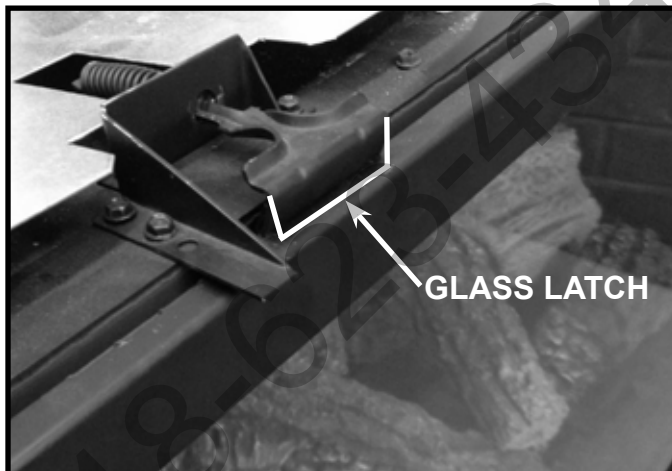
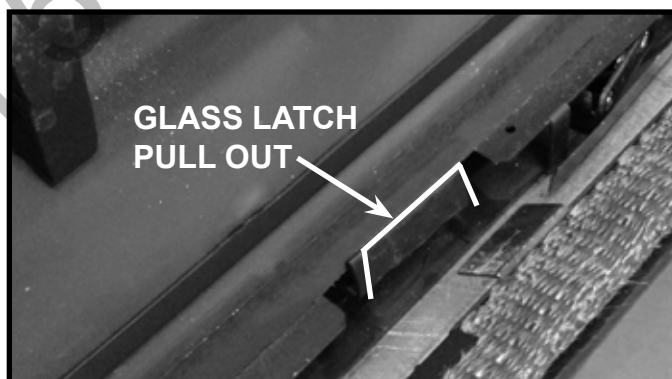

Figure 11.2 Top Glass Latch
Figure 11.3 Bottom Glass Latch
- The glass assembly fastens to the fireplace in four places. The fastening mechanisms are spring-loaded glass latches. An example of the top glass latch is shown in Figure 11.2 and an example of the bottom glass latch is shown in Figure 11.3.